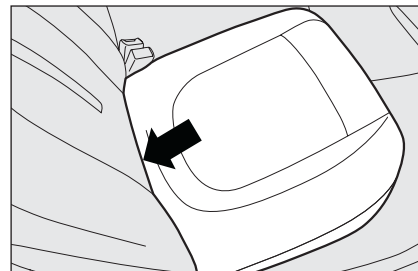

fig. 88
- fold the required cushion **fig. 88** forward as shown by the arrow;